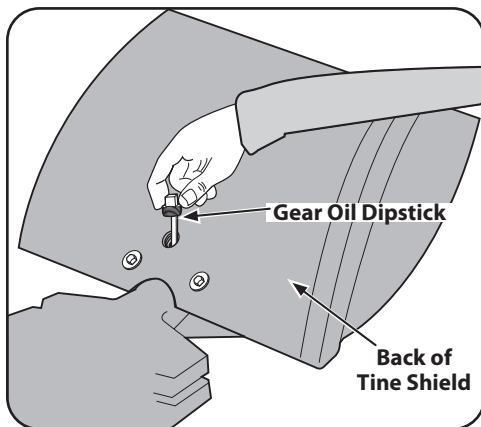

Figure 5-7
NOTE: Two different gear oil checking procedures for the tine attachment transmission are described next. Use the first procedure if the dipstick in your tine attachment has only a 'Check Cold' marking. Use the second procedure if the dipstick has both cold and hot markings at the end. First remove the dipstick from the tine attachment transmission to see which type of dipstick you have. See Figure 5-7. Then replace the dipstick with the markings on the dipstick facing to the rear.
6. Loosen and remove the transmission dipstick on the back of the tine shield. See Figure 5-7. Wipe it clean with a rag.
7. Hold the dipstick so its markings face to the rear of tiller. Lower it straight down into the sump hole to touch the drive shaft inside. See Figure 5-7. Don't force or try to thread it back in; an incorrect reading will result.